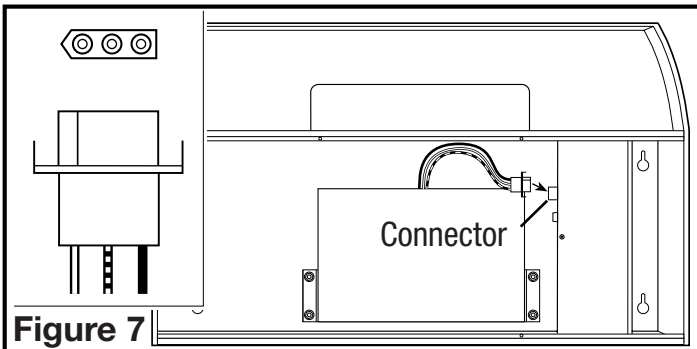

Figure 7
3. Plug the blower into the appropriate connector on the side of the wire compartment. It will only fit one way (**Figure 7**).